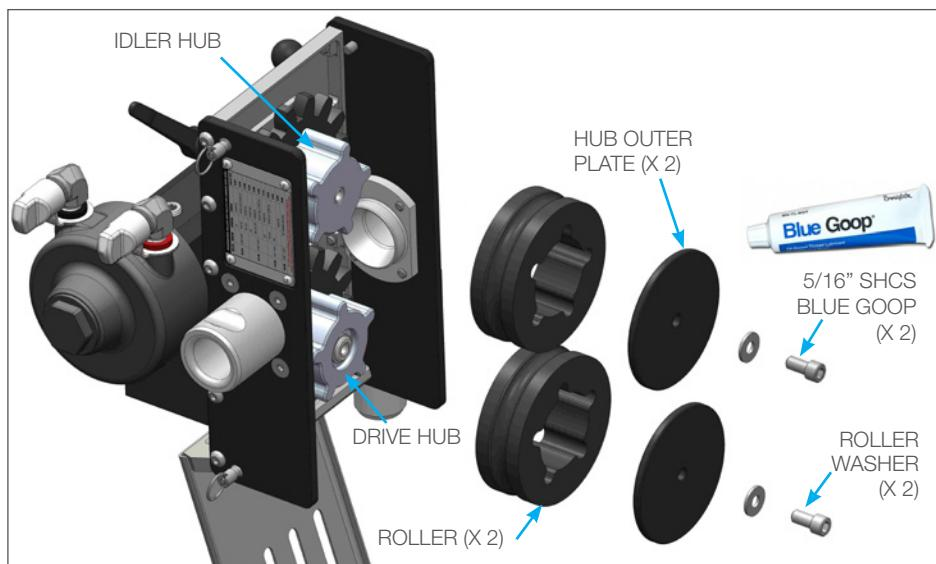

FIGURE 5
5. Slide the new Poly Rollers onto the Hubs. Be sure to align the holes in Hub Outer Plates so the size inscription on the Poly Roller shows through. (**Figure 6**) Then fasten the Hub Outer Plates and Roller Washers onto the Hubs with the two 5/16" socket head cap screws. Lightly coat the threads with Blue Goop® a Swagelock Brand Anti-seize. An equivalent alternative is acceptable. (**Figure 5**) **Skip to Step 9.**